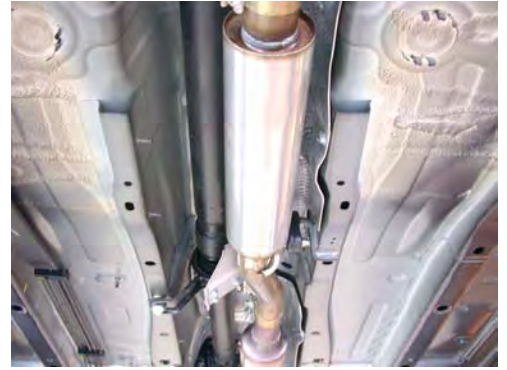

Figure 4
1. Place a clamp over the expanded end of the front muffler assembly and set it into position as shown in figure 4 making sure to install the hanger into the rubber isolator. Do Not tighten the clamp.